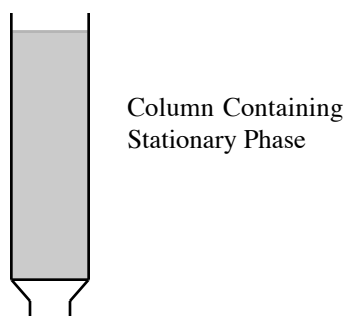

Figure 1.
Liquid chromatography (LC) is an analytical technique chemists use to separate mixtures into individual components. Simple liquid chromatography consists of a column that holds *the stationary phase* (Figure 1) which is in equilibrium with a solvent, *the mobile phase*.